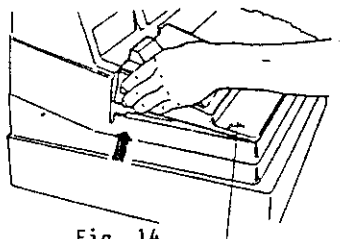

Fig. 14
2. Remove the Ribbon Cover. Press the side inward and the hook will unlocked (Fig.14).
2. Remove the Ribbon Cover (Fig. 14).